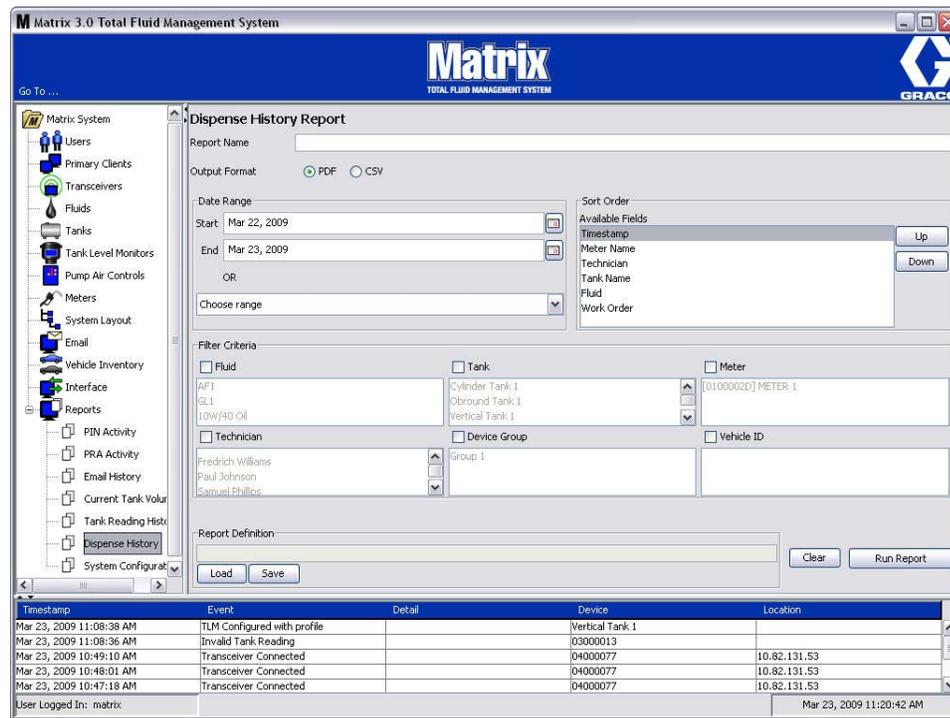

FIG. 222
- **Dispense History (FIG. 222)**